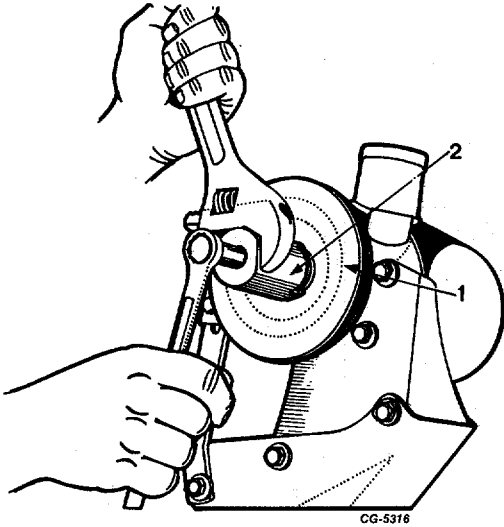

Fig. 23 Using SE-2420 Puller to Remove Power Steering Pump Pulley
- 19. Use SE-2420 Puller and wrench to remove power steering pulley, Figure 23.